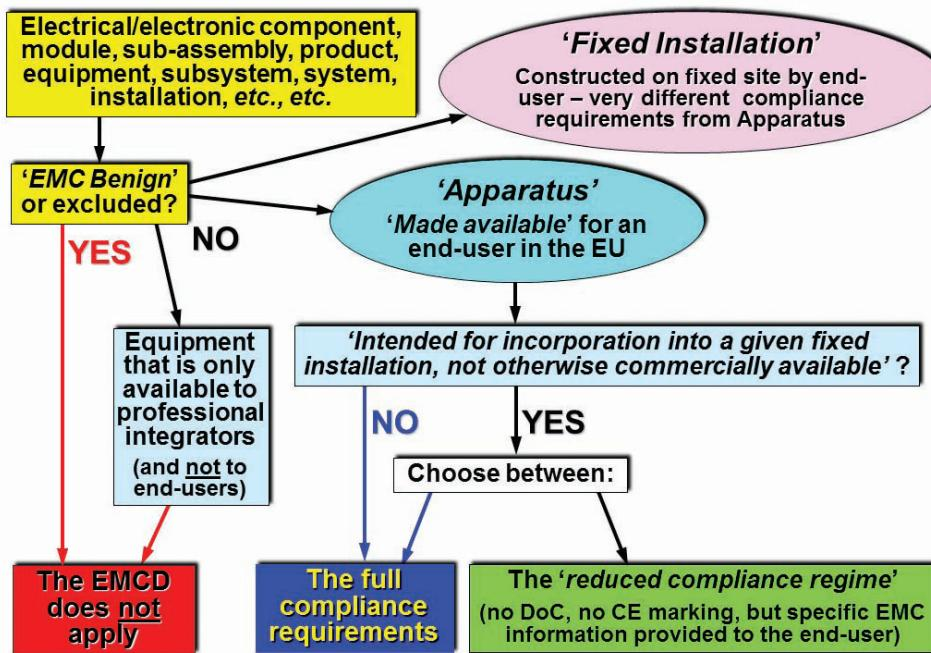

Figure 1: Applying the EMC Directive
The EMCD applies to both *apparatus* and *fixed installations*, with special legal meanings for both of these otherwise commonplace terms. Figure 1 shows that apparatus is treated very differently from fixed installations.
1. Mistakenly assuming that every item of equipment that carries a CE marking must therefore comply with the EMCD. This article describes three ways in which this assumption can be wrong, all of which are shown in Figure 1.